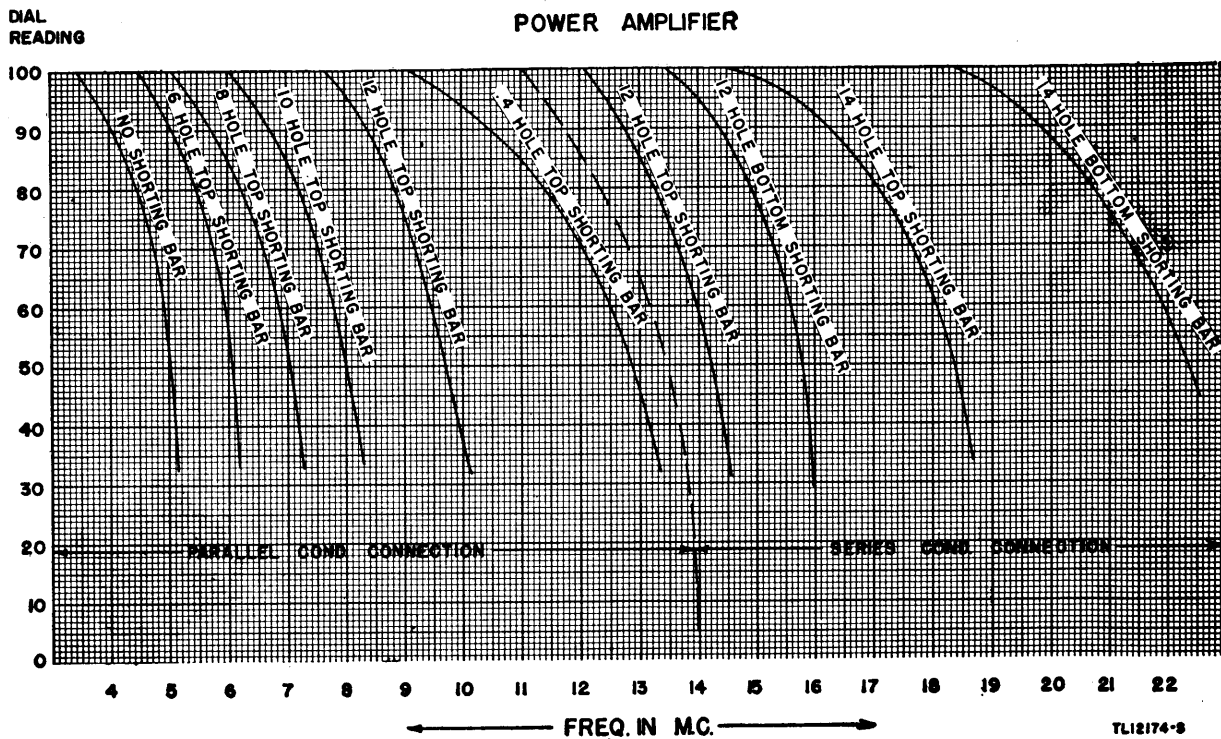

Figure 77. Power amplifier tuning curve.
b. Connect the p-a tank capacitors for either parallel or series operation as indicated on the p-a tuning chart figure 77.